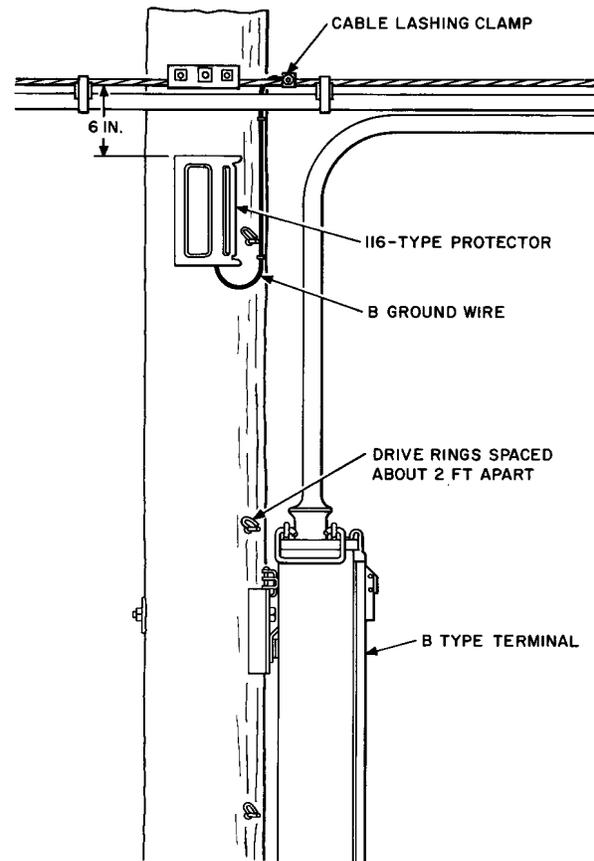

Fig. 8—Mounting 116-Type Protector at Cross Connect Terminal
3.04 Locate 116-type protectors, when required at cross-connecting terminals, at the most convenient point. See Fig. 8 for a suggested location.